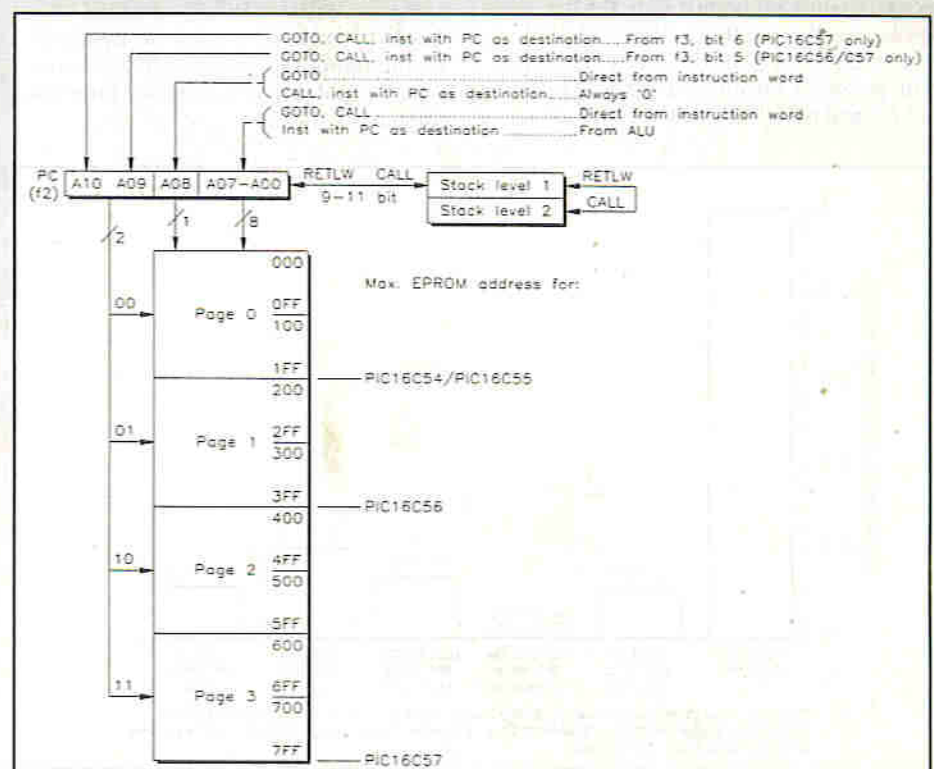

Figure 7. PIC16C5x program memory organisation.
Up to 512 words of 12-bit wide on-chip program memory can be directly addressed. Larger program memories can be addressed by selecting one of up to four available pages with 512 words each, as shown in Figure 7. Sequencing of instructions is controlled by the Program Counter (PC), which automatically increments to execute in-line programs. In addition, a two-level on-chip stack is employed to provide flexible subroutine nesting.